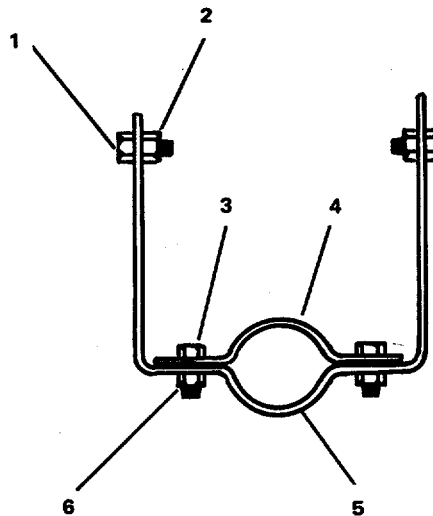

FIGURE 3-210. Repair Pipe Hangers (Typical).
**3-223. Replace/Repair Pipe Hangers. (Figure 3-210).**